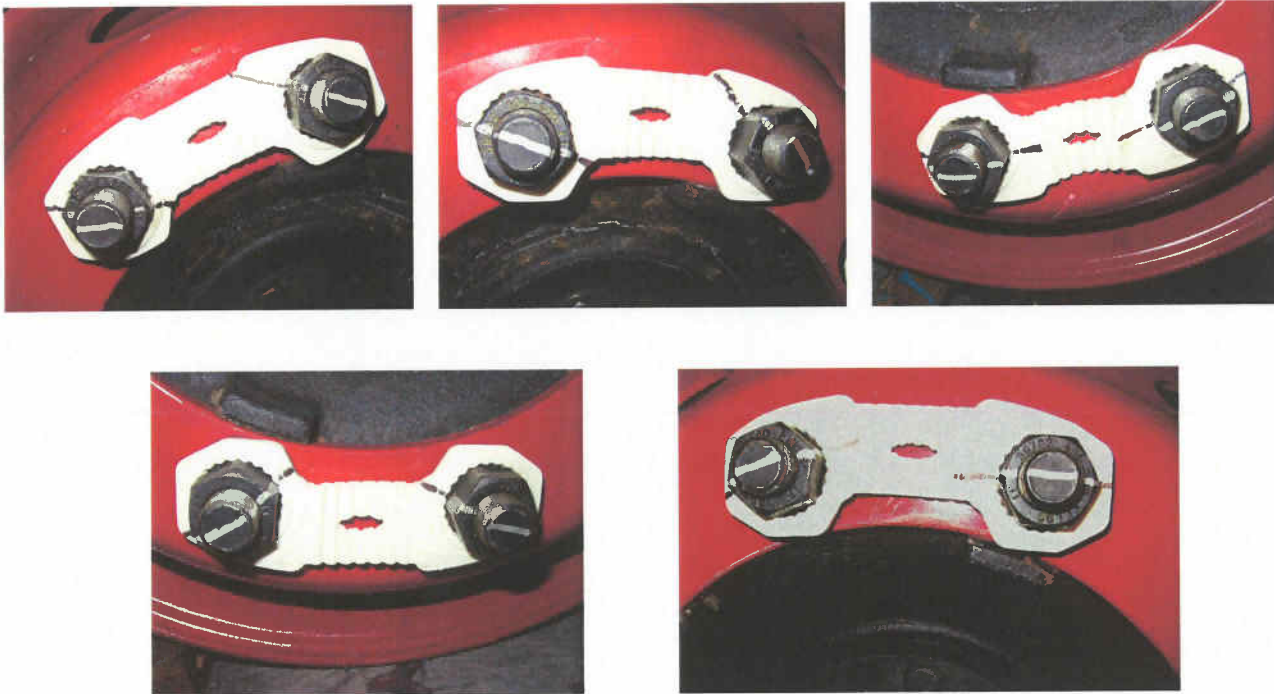

Figure 10A
5. 26" Alloy Rim, after vibration testing at 120°C: Figure 9A and Figure 10A.